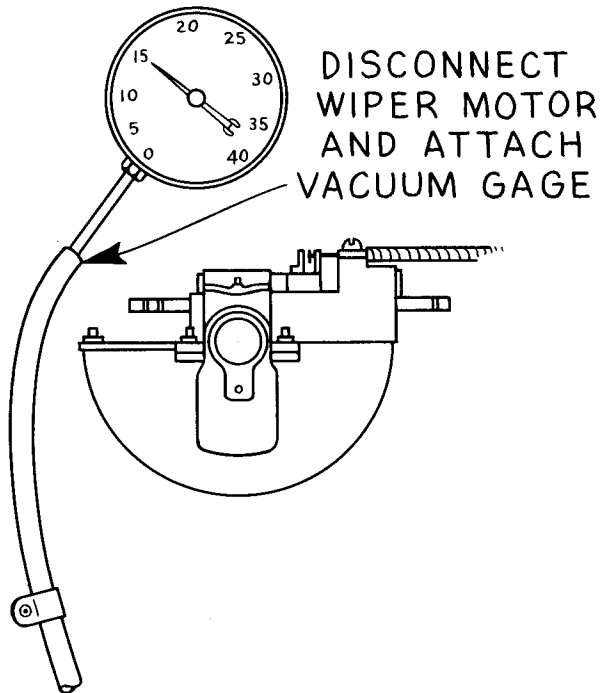

FIG. 6
**5. VACUUM SUPPLY** at Engine Manifold Static vacuum should register from 14 to 16 inches of mercury at idling speeds. To check vacuum, disconnect wiper hose at manifold and connect vacuum gage. See Fig. 6. If the engine vacuum is insufficient, diagnose cause and repair engine.